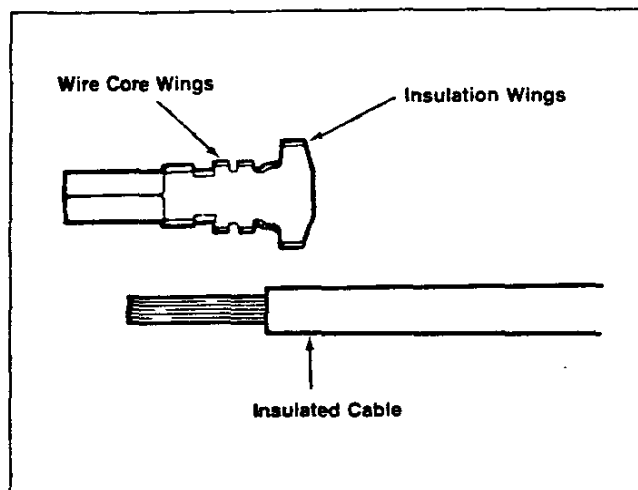

Figure 38
5. Insert the cable into the terminal until the stripped portion is positioned in the wire core wings, and the insulated portion ends just forward of the insulation wings (Fig. 38).